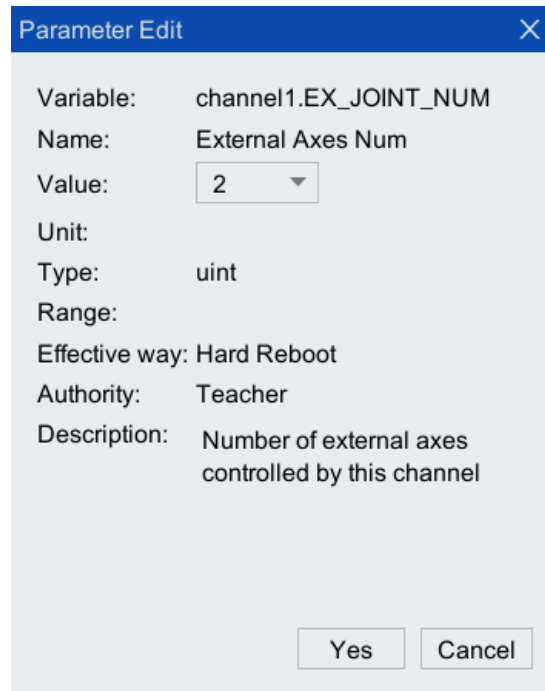

Figure 4-4 External axis quantity configuration interface
- Step 5. Click <Edit>, and the dialog box shown in Figure 4-4 will pop up. Configure the parameters in [Value] (see Table 4-2 for parameter descriptions) and click <Yes>.